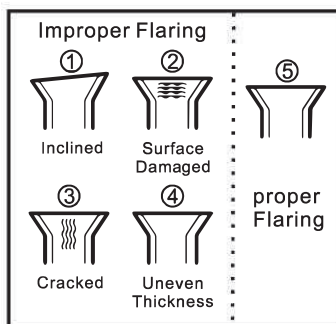

Fig. 7
- 3) Flare the pipes. Insert the pipe outlet into the copper nut before flaring the pipe. Ensure that the hole is flat with sound surface and even thickness. (Fig. 7)